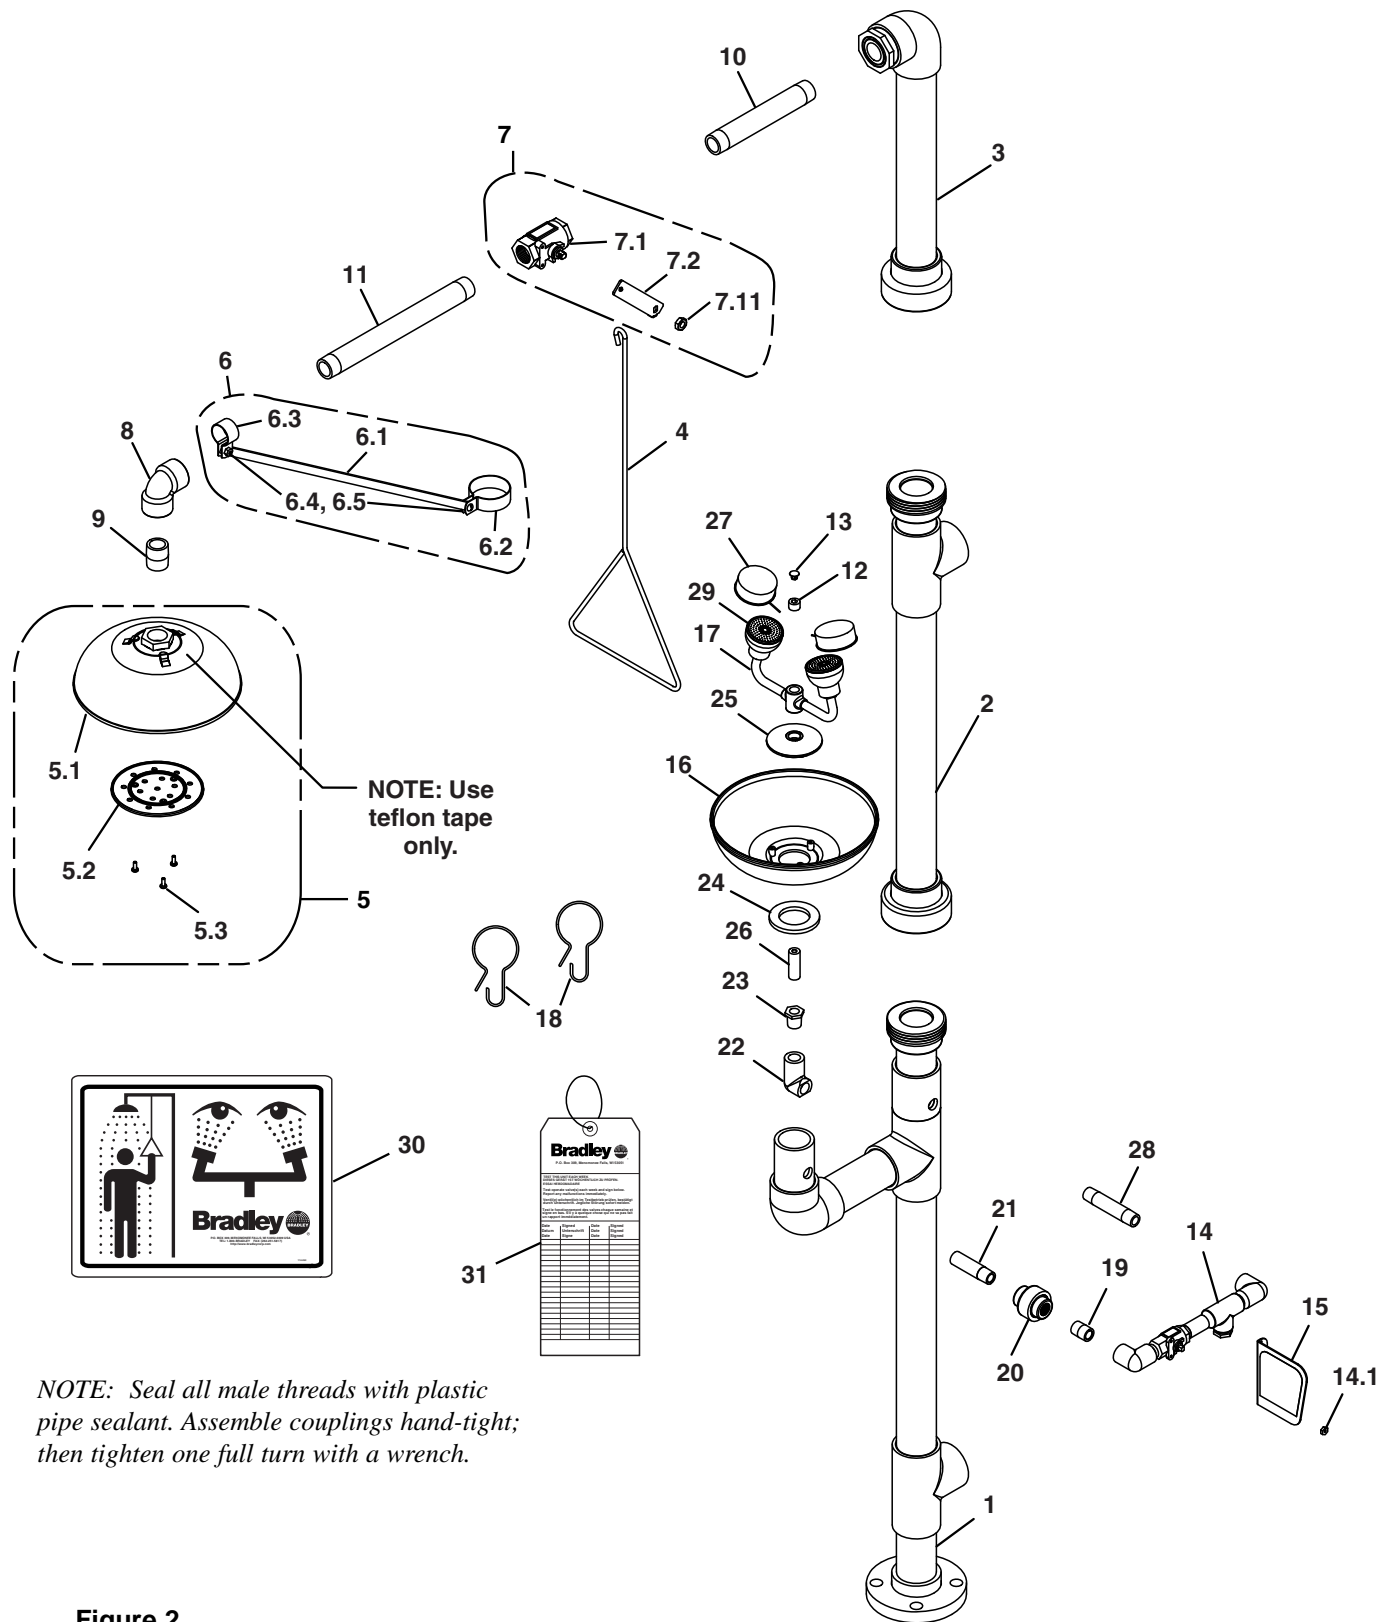

Figure 2
*NOTE: See Figure 2 on page 5 for part identification.*